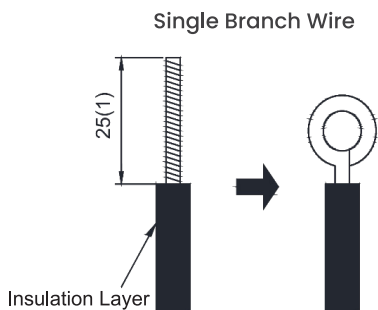

Fig 5.1.1
1. The connection of the wire (as shown in Fig 5.1.1)